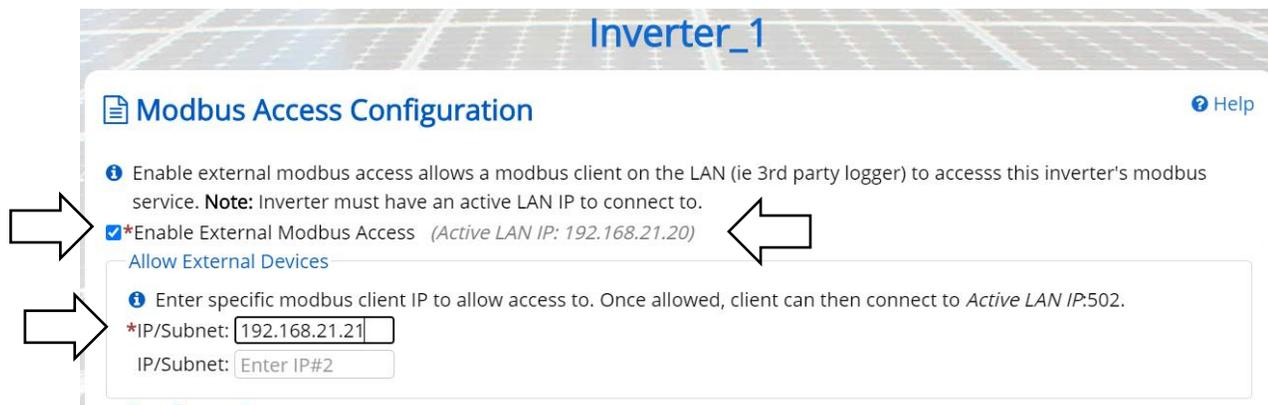

Figure 3-29 Enabling external Modbus access, static routing
- Listed as **Active LAN IP** on the **Modbus Access Configuration** page, see Figure 3-29